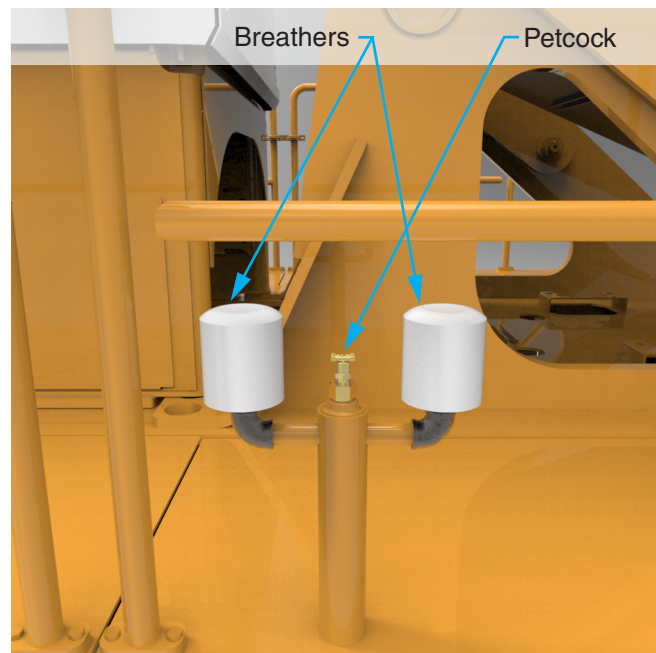

Figure 5-5-27 Hydraulic Tank Breathers
3. Relieve pressure in the tank by opening the petcock between the breathers. See Figure 5-5-27.